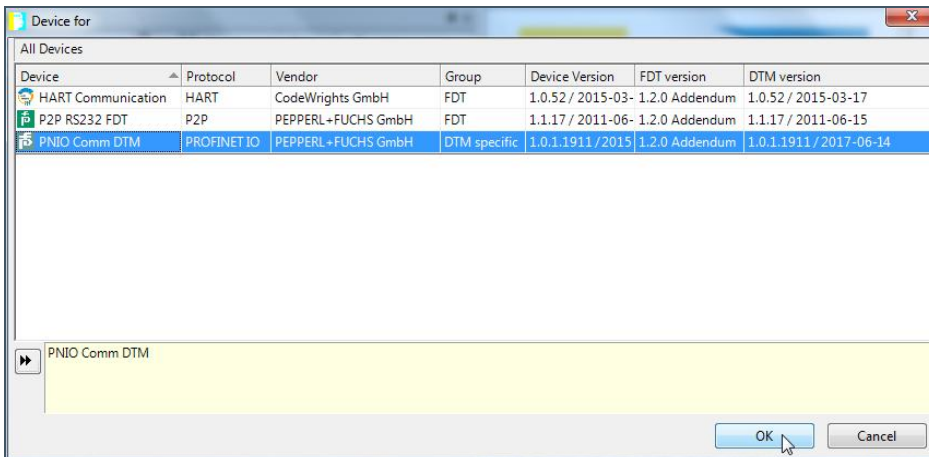

Figure 48: Choosing the PROFINET driver
- 3) Choose the **PNIO Comm DTM** and click **OK** (see: Figure 48: Choosing the PROFINET driver).